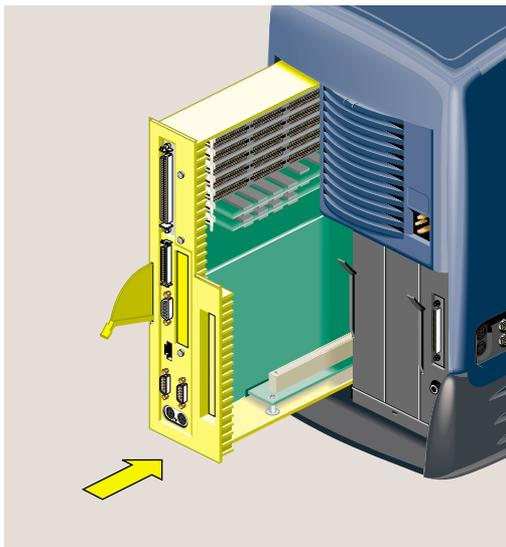

Figure 2-51 Reinstalling the System Module in the Chassis
2. Slide the system module into the chassis until the lever engages (Figure 2-51).